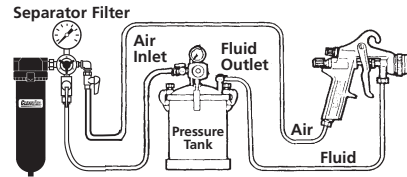

FIG 2
**PRESSURE TANK HOOKUP (Figure 2)**